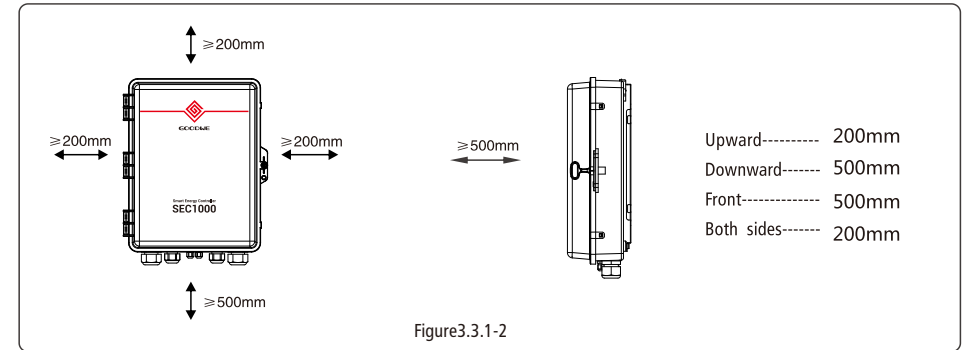

Figure 3.3.1-2
- The SEC1000 must be installed vertical or with a backward tilt less 15°. No sideways tilt is allowed. The connection area must point downwards. Refer to Figure 3.3.1-1.
- To allow dissipation of heat, and for convenience of dismantling, clearances around the SEC1000 must be no less than the values, refer to figure 3.3.1-2